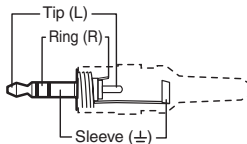

Figure 2-9 — 3.5 mm stereo audio plug
- ④ **Audio input (RGB CV, RGB and SW RGB models)** — Plug a 3.5 mm stereo audio plug into this jack for unbalanced audio input. Wire the plug as shown in figure 2-9.
NOTE Figure 2-9 shows a typical audio connector, which consists of tip, ring, and sleeve.